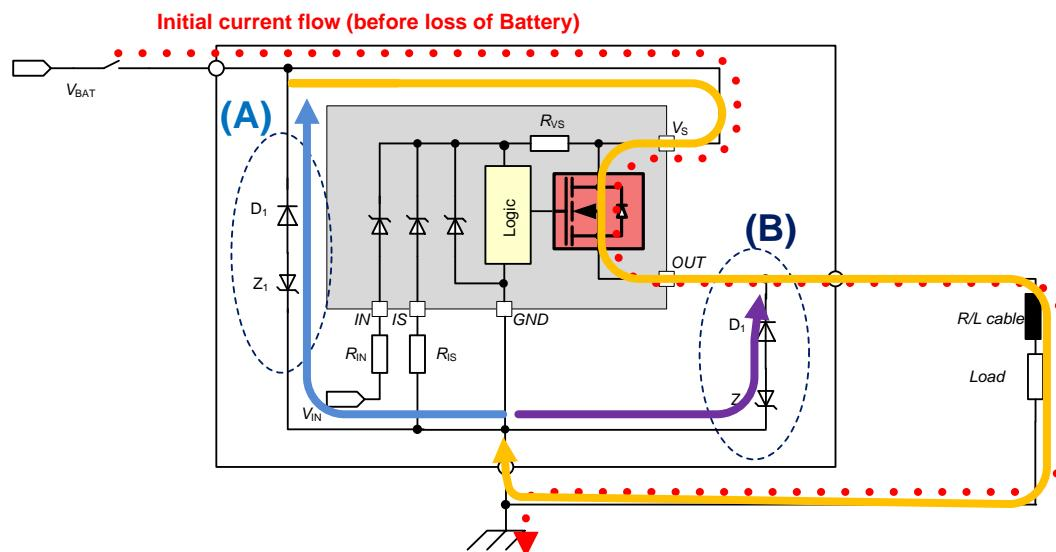

Figure 4 Loss of Battery
- The Maximum Single Pulse Current vs. Pulse Time (refer to datasheet figure 4) shall not be exceeded. Especially when Power PROFET™ is used in high current
Figure 4 illustrate this condition.
Before loss of ECU Battery a load current may flow from the battery through the ECU according Figure 4 red dashed line (i.e. from battery, through battery supply wire, through ECU battery connector, on the ECU PCB traces through the Power PROFET™ power stage, through ECU load connector, through load, thorough ground/chassis back to battery gnd pole).
- A GND related clamping of the VS pin (see Figure 4 light blue freewheeling path option (A))
- A GND related clamping of the OUT pin (see Figure 4 lila freewheeling path option (B))